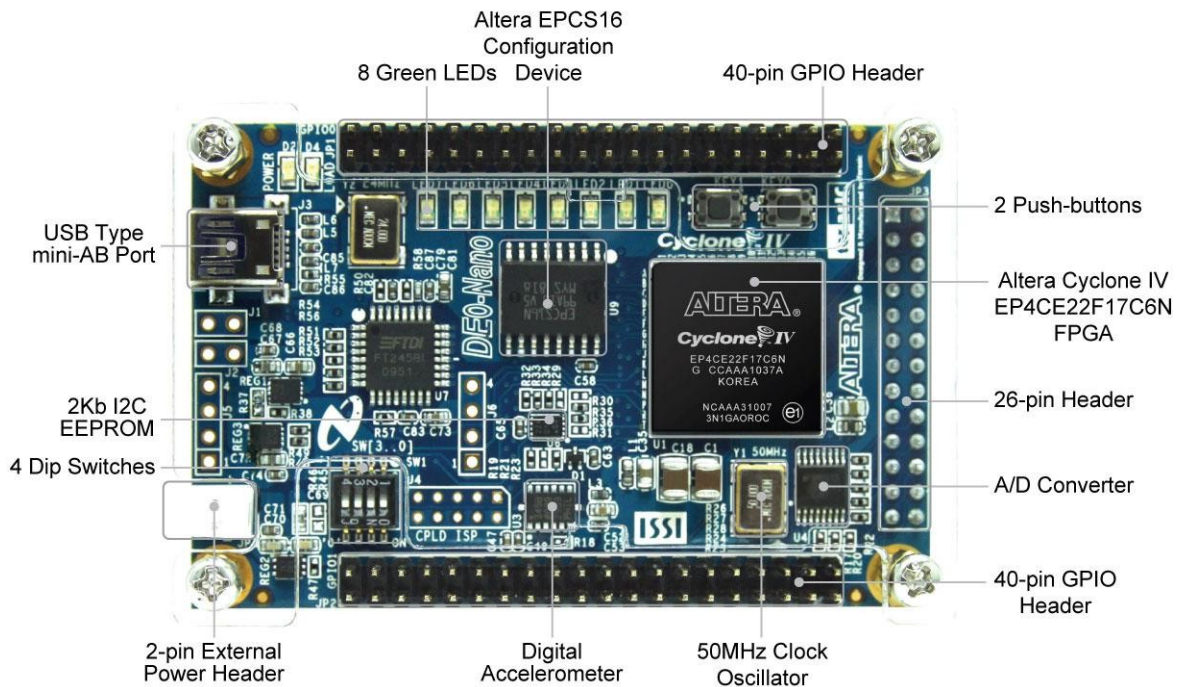

Figure 3: DE0-NANO Development Board
- 2.4. In order to be able to connect to the board you will need to assign pins to the proper expansion header on your board. The easiest to use is the GPIO-0 at the top of the board (Figure 3).